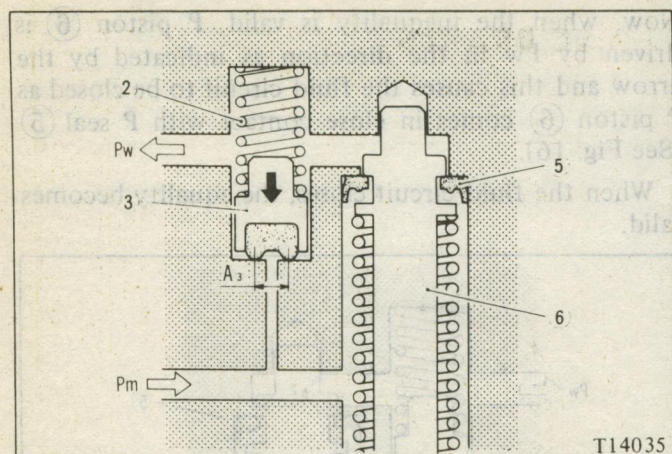

Fig. 17 BPV in Operation (2)
which shows that equal forces act on B piston (3) shutting off the bypass port between the master cylinder and the wheel cylinder. (Fig. 17)